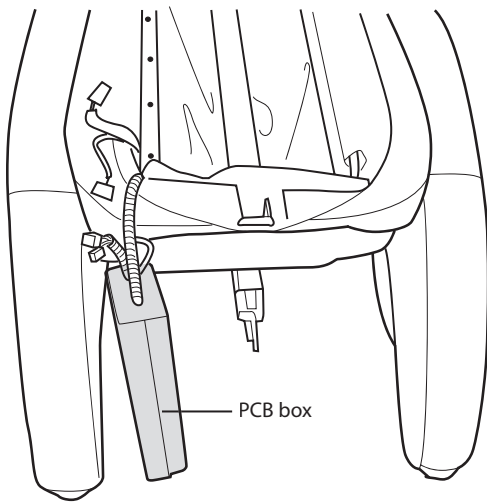

Fig.7
1. Place the PCB box behind the chair, next to the left-hand chair leg (Fig.7).